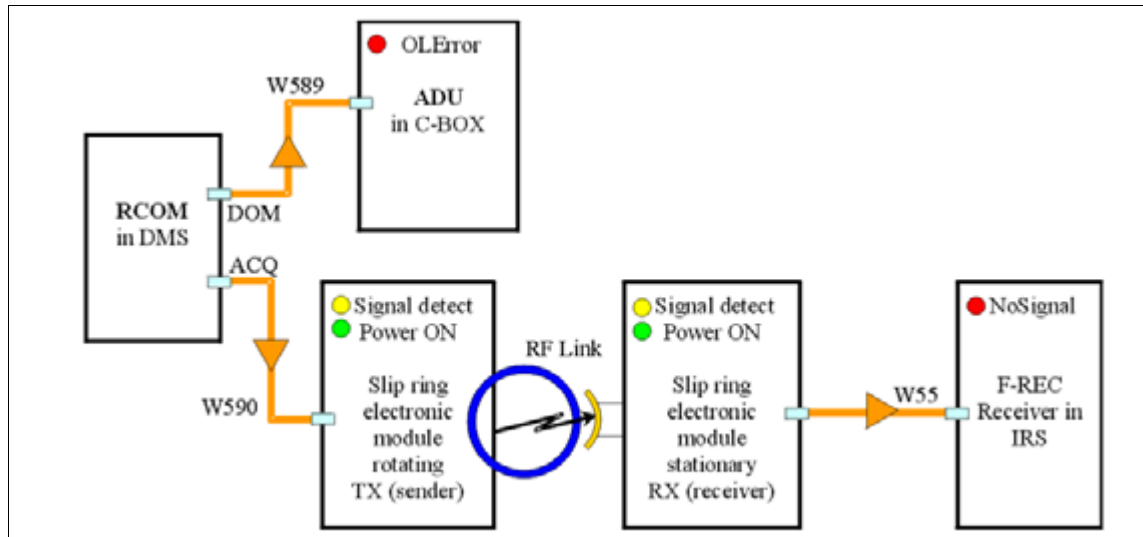

Fig. 61: Block diagram of data path
The **ADU** (D513) consists of two controllers:(Fig. 61 / p. 90)
- It is recommended a spare be on hand for W55 (Fig. 61 / p. 90) (30 m optical fiber).
A quick check may be performed by checking the following status LED's: \(Fig. 61 / p. 90\)
- Checking the DOM output of RCOM (Fig. 61 / p. 90)